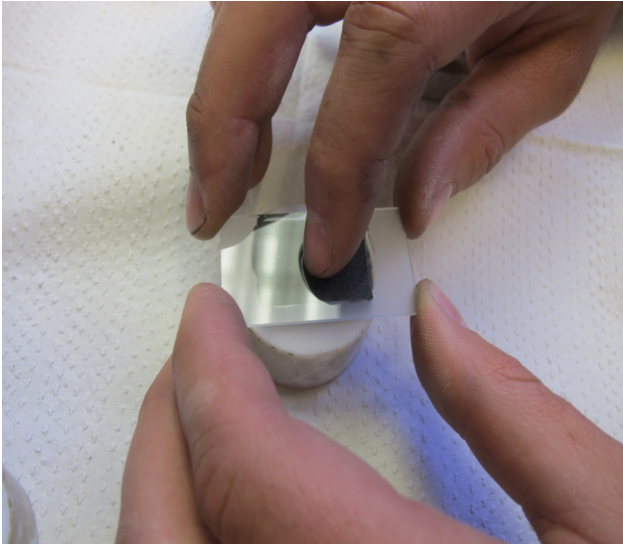

Figure 8
5. Press on the middle of the slide moving any bubbles out to the sides (Fig. 8).